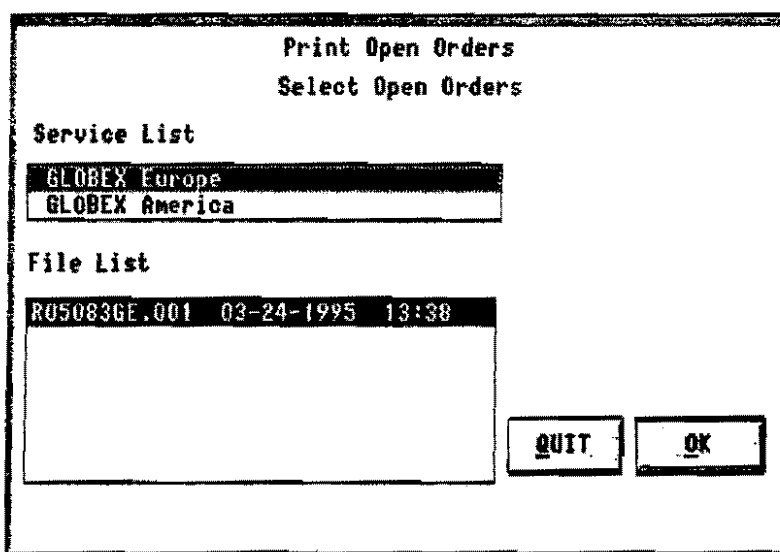

Figure 12.21 Print Open Orders Dialog Box
1. Select **Open Orders** in the Print menu to display the dialog box shown in Figure 12.21. The highest priority Service is selected, as is the most recent of up to seven open order files displayed in the list. (Open order filenames are explained in Section 12.4.1.)